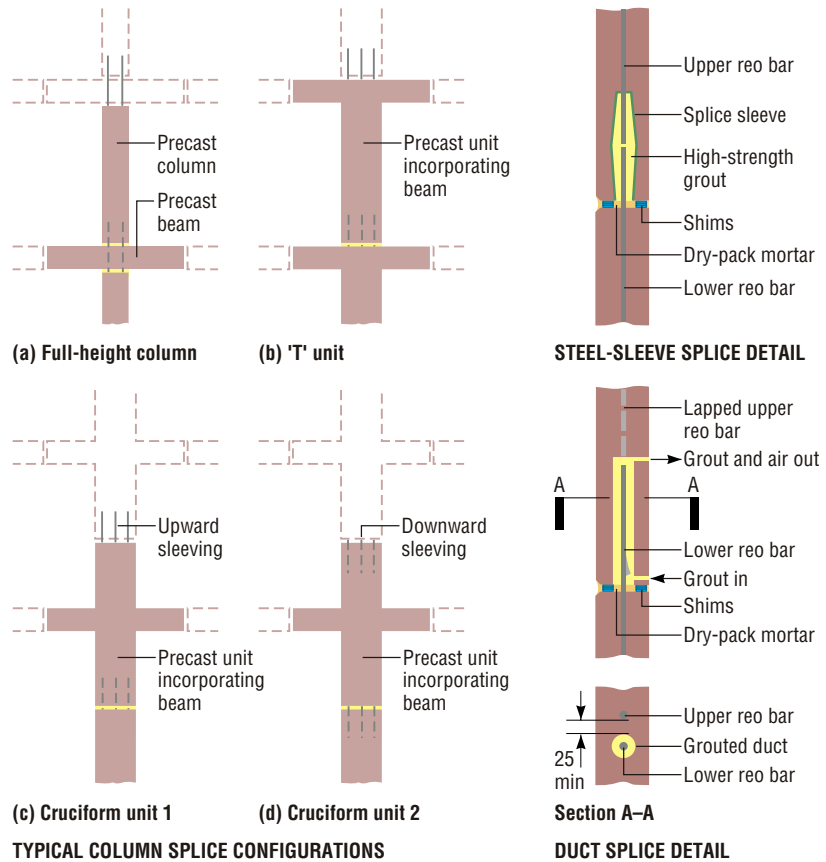

Figure 1 Typical loadbearing column connections
- Core holes may be grouted by pouring directly into access holes in the side of the column or by pumping into holes drilled into the duct near the base. This ensures that all air is displaced, see Figure 1.